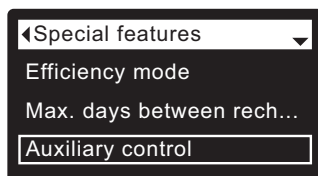

FIG. 141
9. Press the SELECT (O) button. The display will go back to the Special features menu (Figure 141).
1. From any of the rolling status screens, press the SELECT (O) button to display the **Main menu**.
3. Press the SELECT (O) button to display the Advanced settings menu.
5. Press the SELECT (O) button to display the Special features menu (See Figure 141).